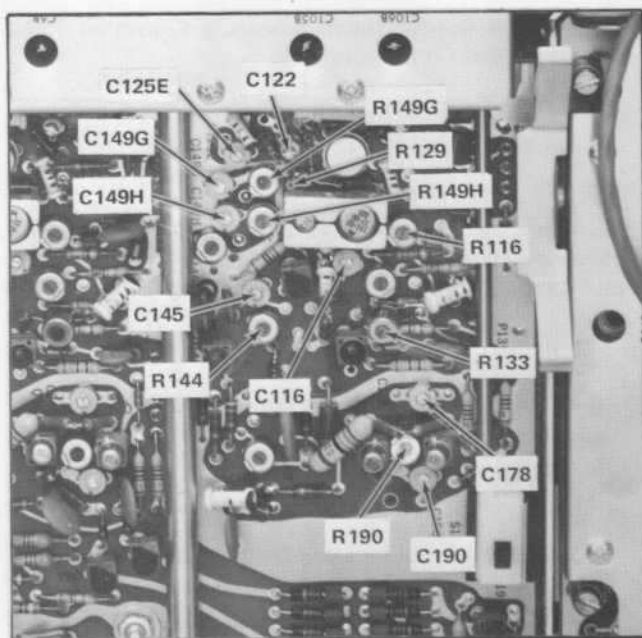

Fig. 5-12. Location of CH 2 compensation adjustments.
f. ADJUST—If the CRT display exceeds the limits of the CHECK—step, use the following adjustment procedure. See Fig. 5-12 for location of adjustments.